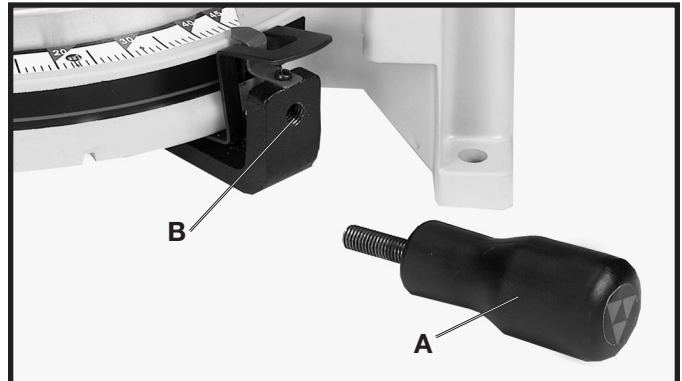

Fig. 3
Thread table lock handle (A) Fig. 3 into the threaded hole (B) of the arm bracket.